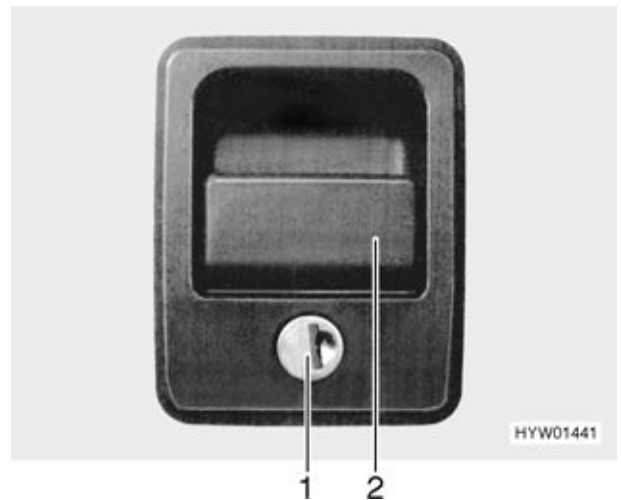

Fig. 29 Flap lock (variant 1)
- Insert key into locking cylinder (Fig. 29,1) and turn a quarter turn in an anticlockwise direction. The flap lock is open.
- Pull on the lock handle (Fig. 29,2). The external flap is open.